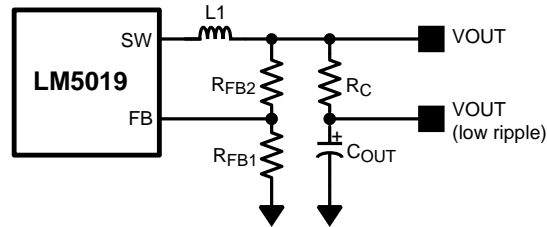

Figure 13. Low Ripple Output Configuration
This regulator regulates the output voltage based on ripple voltage at the feedback input, requiring a minimum amount of ESR for the output capacitor (C_{OUT}). A minimum of 25 mV of ripple voltage at the feedback pin (FB) is required for the LM5019. In cases where the capacitor ESR is too small, additional series resistance may be required (R_C in Figure 13).
For applications where lower output voltage ripple is required the output can be taken directly from a low ESR output capacitor, as shown in Figure 13. However, R_C slightly degrades the load regulation.